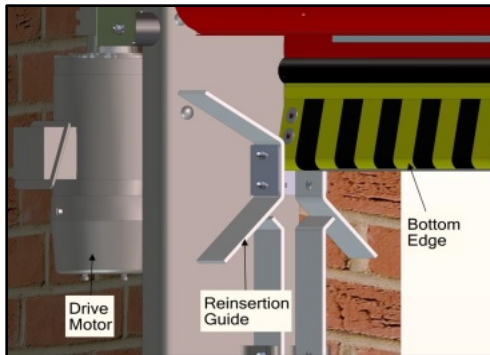

Figure 37
2. Manually adjust the curtain panel until the bottom edge is centered on the outer reinsertion guides. Make note of the direction the white limit cams are turning, this will assist you in making the necessary adjustments required to the particular white cam requiring adjustment (clockwise or counterclockwise). (See Figure 37)